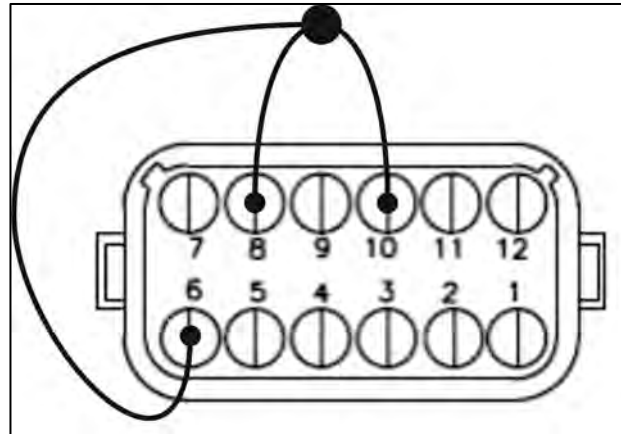

Figure 1
5. Insert terminals in cavities 8, 9 and 6 of connector housing 563613 as shown on Figure 1.